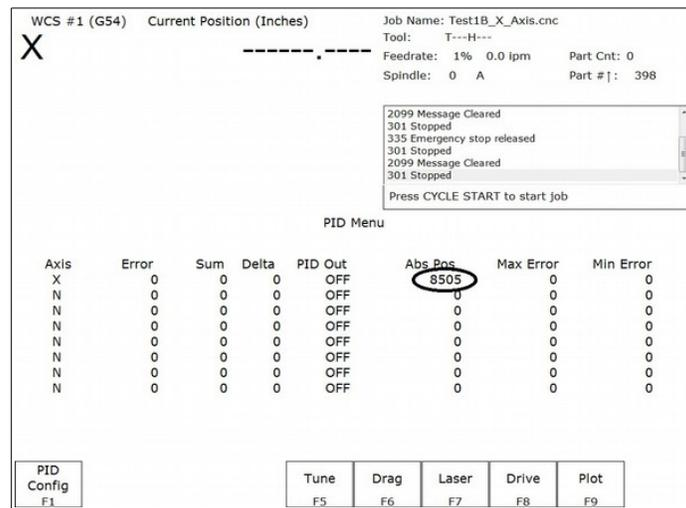

Figure 6.3.1
2. With the Estop pushed in, manually rotate each motor while watching the abs pos field (circled below) for that axis as seen in Figure 6.3.1. Confirm that you have smooth feedback on all axes and that X updates the X DRO, Y updates Y DRO etc.